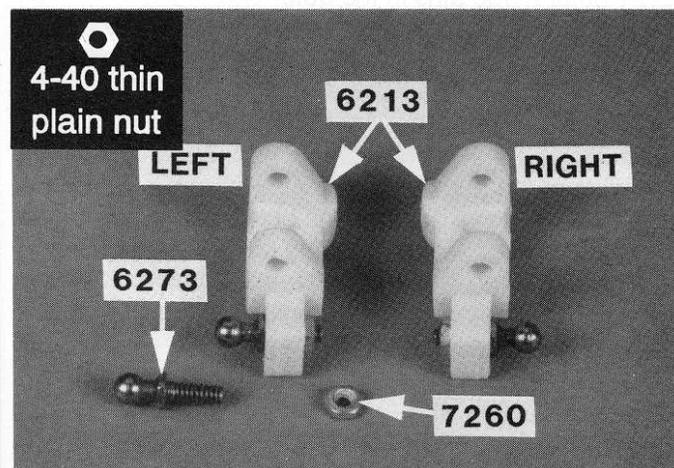

Fig. 1
□ **Fig. 1** From Bags 6-14 and 7-1 screw the #6273 long ball end into the left hand #6213 front block carrier as shown, then screw on the #7260 nut. Assemble the right hand parts.